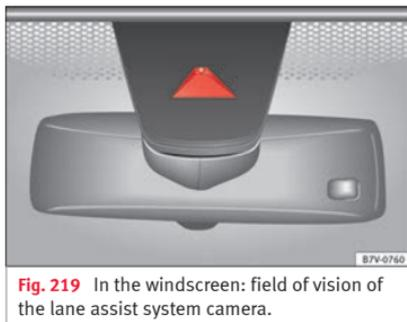

Fig. 219 In the windscreen: field of vision of the lane assist system camera.
- **Before starting travel, verify that the camera's field of vision is not covered »» Fig. 219.**